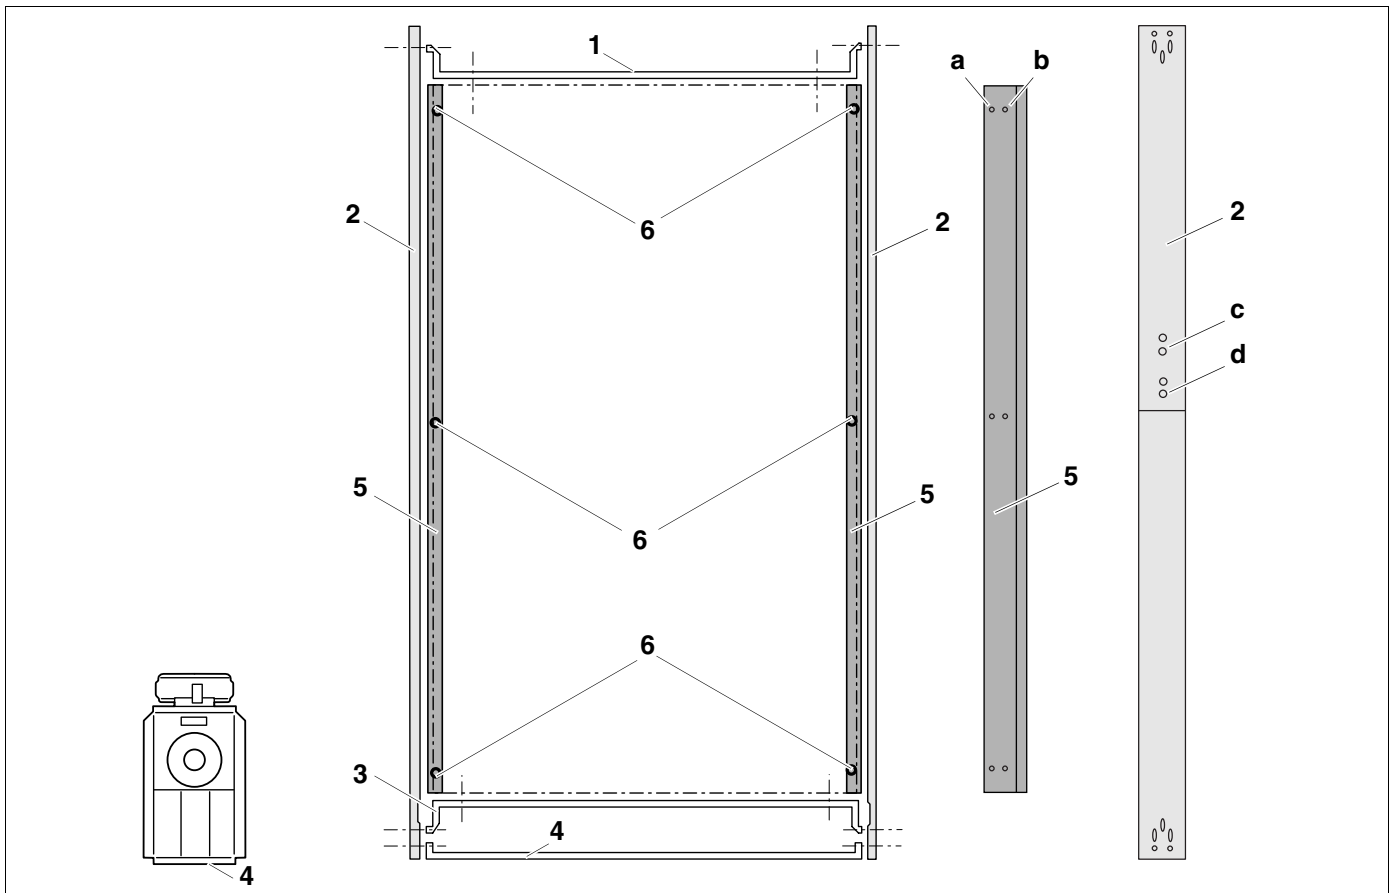

Fig. 13 Bottom cross brackets (top view)
- Secure the lower front cross brackets (Fig. 13, **Item. 3**) to the boiler body using two bolts.
- Secure the lower rear cross bracket (Fig. 13, **Item. 1**) to the boiler body using two bolts.
- Secure the left and right spacer plates (Fig. 13, **Item. 5**) to the lower cross bracket using three bolts and washers each (Fig. 13, **Item. 6**). Use the holes **Item. a** for boiler models 790 and 970. Use the holes **Item. b** for boiler model 1200.
- The lateral blue covers (Fig. 13, **Item. 2**) comprise two components, which must be pre-assembled (Fig. 13, **Item. c**: screw position for model 790 and **Item. d**: screw position for models 970 and 1200).
- Secure the left and right side of the cover (Fig. 13, **Item. 2**) to the front and rear using one bolt each.
- Secure the blue cover (Fig. 13, **Item. 4**) at the left and right front of the cover (Fig. 13, **Item. 2**) using two bolts respectively.